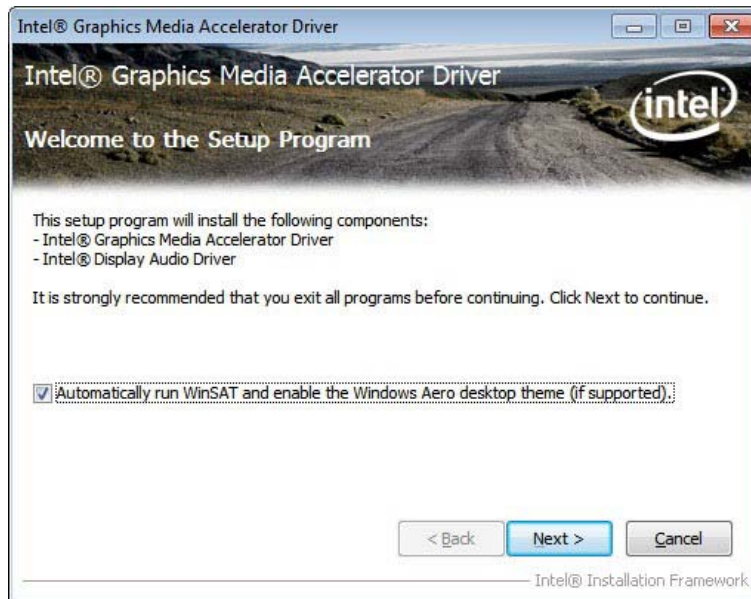

Figure 6-7: Graphics Driver Welcome Screen
Step 5: The **Welcome Screen** in **Figure 6-7** appears.